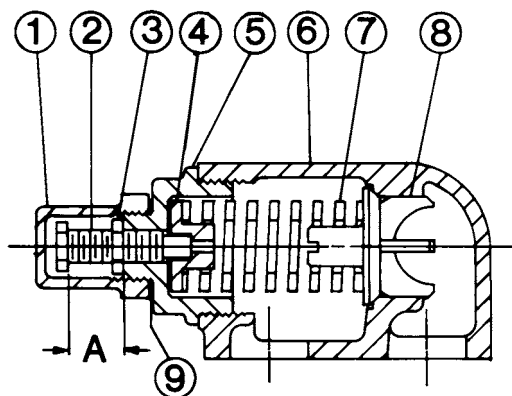

FIGURE 11
2. Measure and record the length of extension of the adjusting screw, **See (A) Figure 11.**